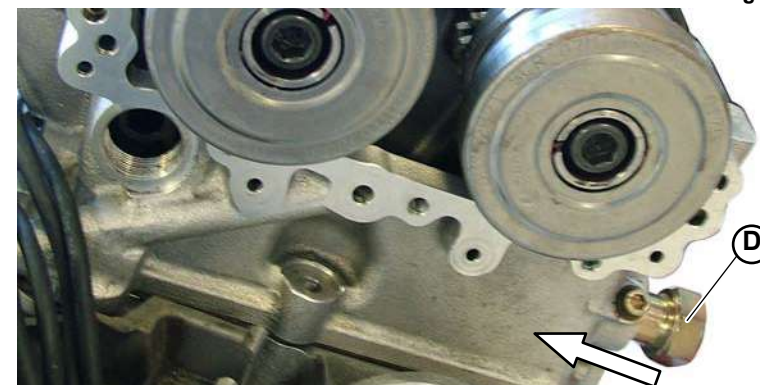

Fig.5
3. Assemble the hydraulic tightener (**D-Fig.5**).